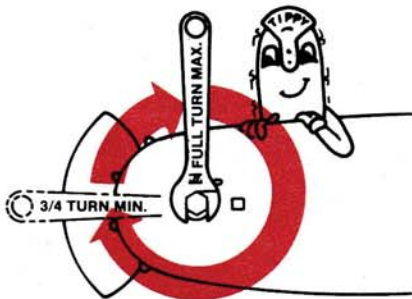

Fig. 4 — Tightening Small SAFE•T•TIP
- b) Now achieve proper tightness with a wrench by adding from 3/4 turn (minimum) to one turn (maximum). (See Figure 4.)